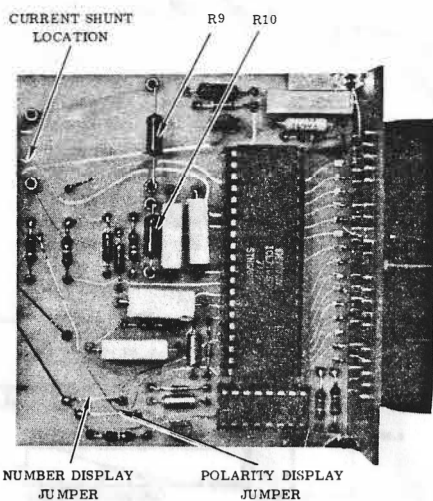

Figure 5. Component Location
The polarity display is energized via an internal jumper on the lower board assembly. See figure 5.
On the RM-350/XX VDC meters, blanking or dimming of the polarity display may also be controlled externally. First remove the internal jumper (figure 5). Then to restore full brightness, connect a jumper between contacts 11 and 12 on the lower connector. To dim the display, connect a resistor of suitable value between these two contacts.
The number display is energized via an internal jumper on the lower board assembly. See figure 5.
On the RM-350/XX VDC meters, blanking or dimming of the number display may also be controlled externally. First remove the internal jumper (figure 5). Then to restore full brightness, connect a jumper between contacts 10 and 11 on the lower connector. To dim the display, connect a resistor of suitable value between these two contacts.
6. Install resistors specified in Table I to attain desired range. See figure 5 for component location. Note that these components should be placed in the lower board assembly.
A shunt resistor may be plugged into the terminals shown in figure 5 to permit current measurement. Alternatively, an external shunt resistor may be connected between signal high and signal low. For current measurement, the meter should be connected in the 200 mV or 2V range, depending upon the full scale voltage drop which can be tolerated. Table II shows the shunt resistor value required. The accuracy of measurement will be determined largely by the accuracy of the shunt resistor.